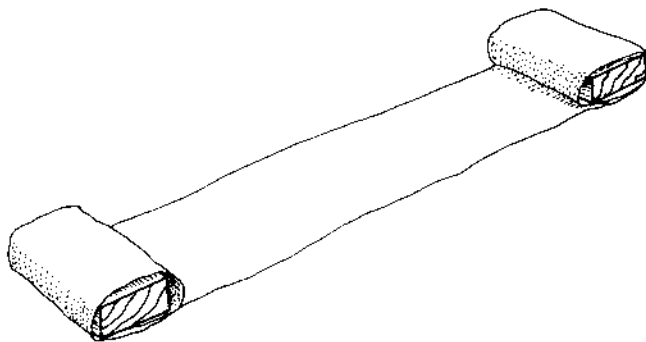

Figure 27.3 Wrapping the ends
2. Wrap each end round a 20 mm length of wooden splint (see Figure 27.3).